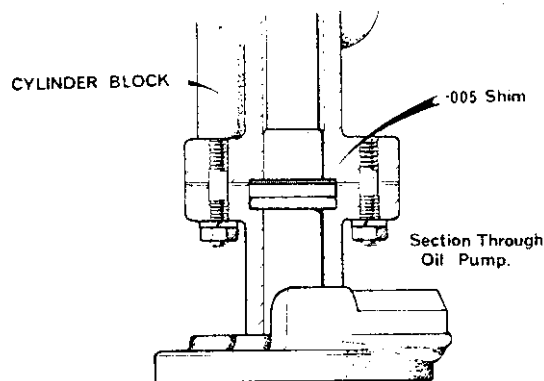

Figure 6 Oil pump drive shaft shims
7. Inspect the oil pump and drive shaft assemblies for wear or damage and renew if required. Note: In production, it has sometimes been necessary to fit one or two 0.127 mm (0.005 in) shims between the oil pump driveshaft bush and the cylinder block (**Figure 6**). It is not necessary when dismantling the pump to remove the drive bush or shim, if fitted. However, if the bush and shim are removed, it is essential that they are both replaced when re-assembling. Failure to do this will allow excessive end float of the distributor driveshaft resulting in poor meshing of the oil pump drive gear with resultant engine noise.